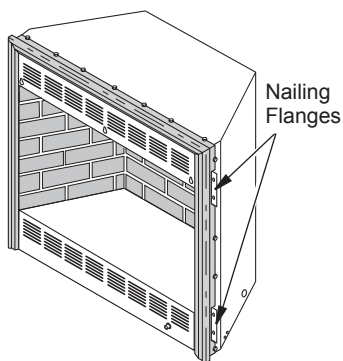

Figure 19 - Location of Nailing Flanges
7. Break off nailing flanges (see Figure 19) with hammer or pliers.